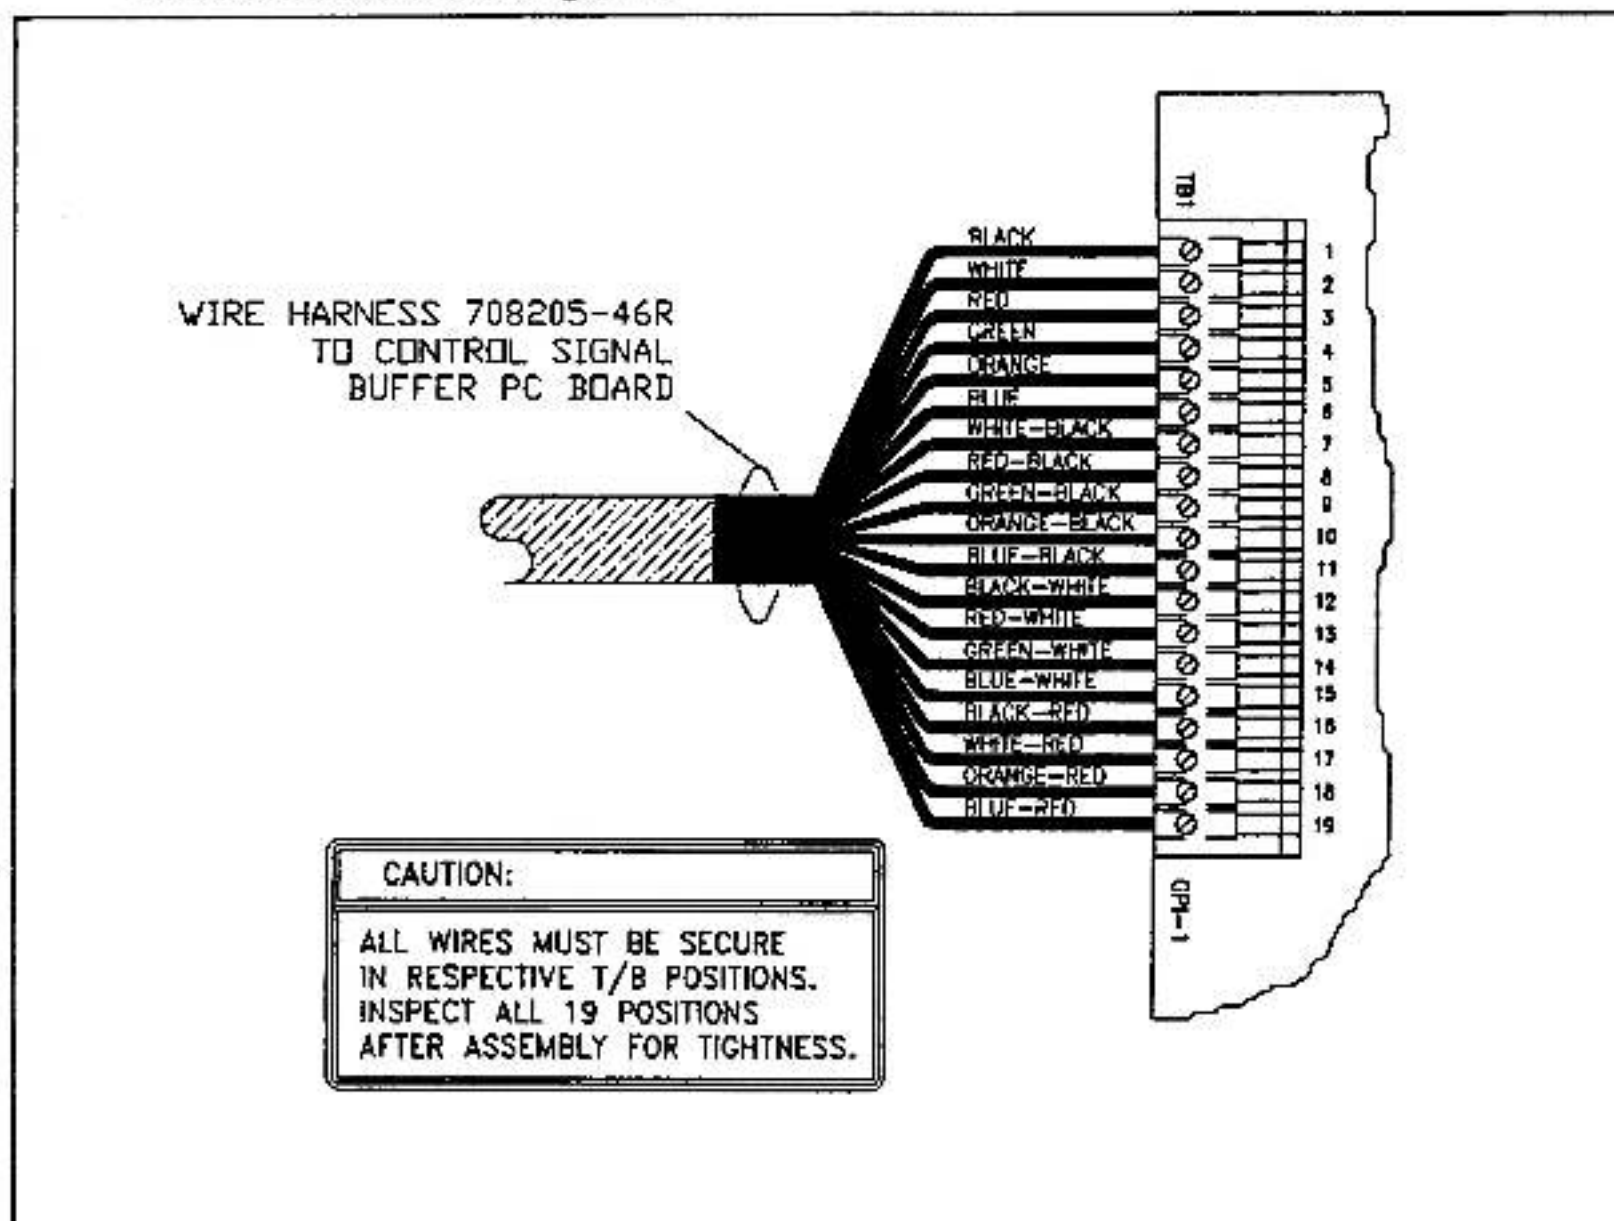

Figure 5. Control Signal Buffer to GP2000 Regulator Wiring Locations.
- b. Connect the wires on the other end of the harness to the GP2000 regulator board terminal TB1. Refer to Figure 5 for wiring detail.